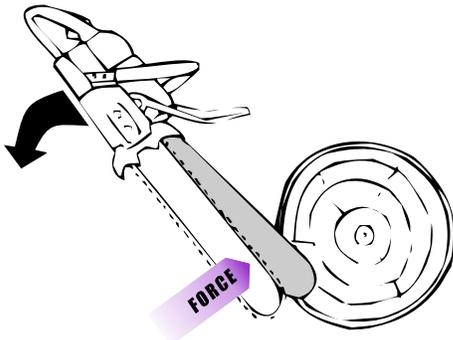

Figure 15: Starting in the middle of the log
3. Commence cut with the top section of the guide bar nose until the depth of the kerf is about the same as the width of the bar. (Fig. 15)